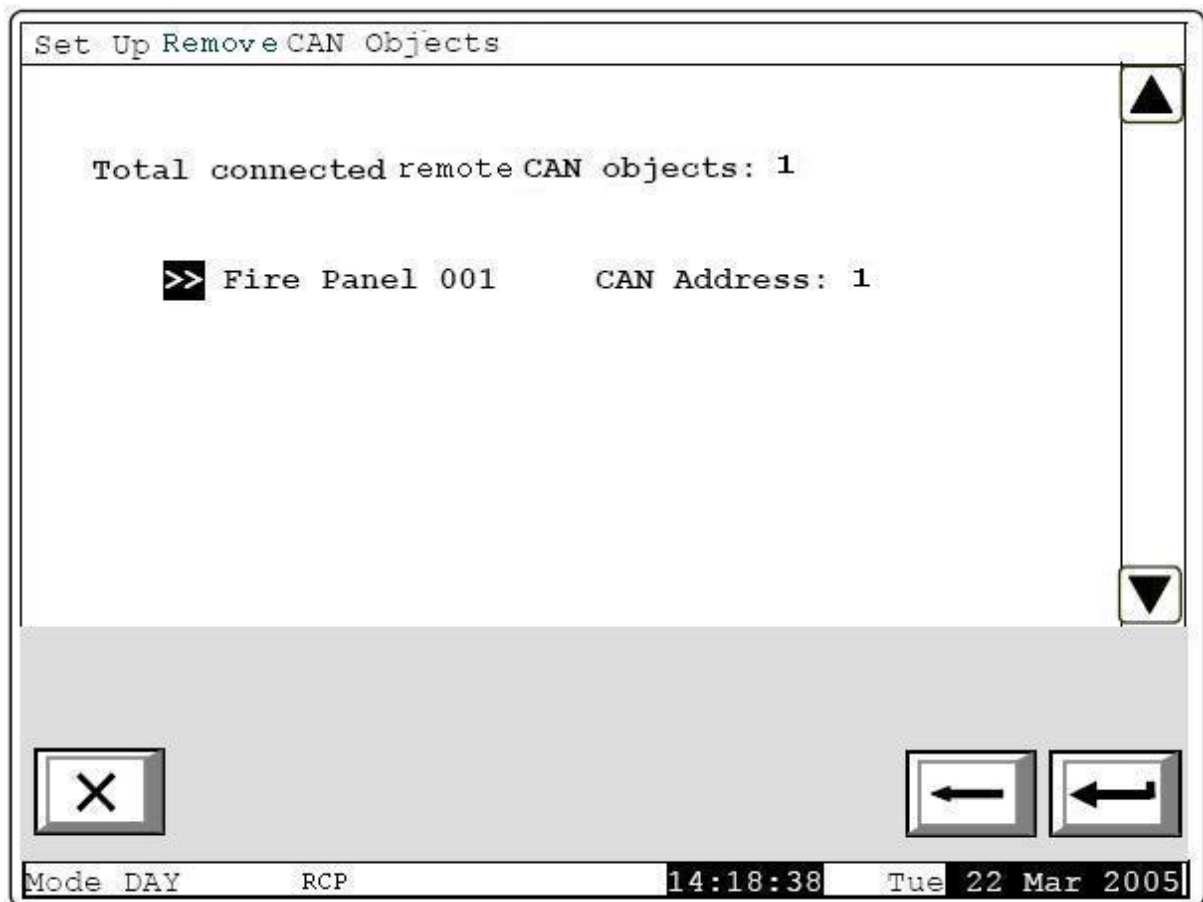

fig. 11
2.5. Delete the Remote CAN objects - we can remove remote CAN object from menu "setup -> panel parameters -> Local Network -> Remove CAN object" (fig. 11).